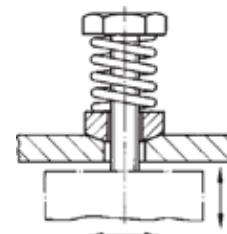

Fig. 2: Ideal fixing for group of magnets
b) Every holding solenoid should be spring-mounted below a transverse rail to dampen the stroke acceleration so that in the case of uneven bearing surfaces the difference between the loads carried by the individual magnets does not vary too greatly (Fig.2).